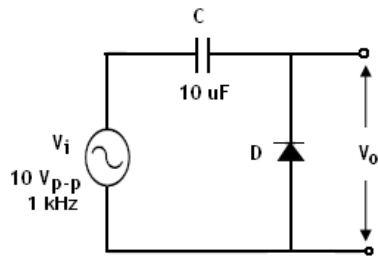

Figure 7: Unbiased Positive Clamper
1. Connect the circuit as shown in Figure 7 and Figure 8.